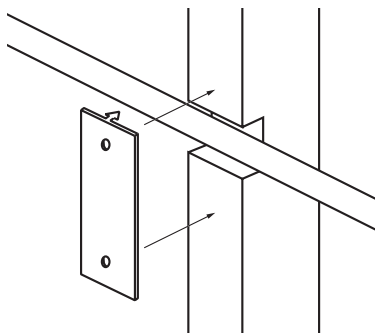

Figure 5. Installing a nail plate to protect wiring in a notched stud.
- *Always drill the holes in the center of the stud. If you have to notch the stud or drill the hole closer than 1 inch from the edge of the stud, protect the wire with a nail plate, as shown in **Figure 5**.*